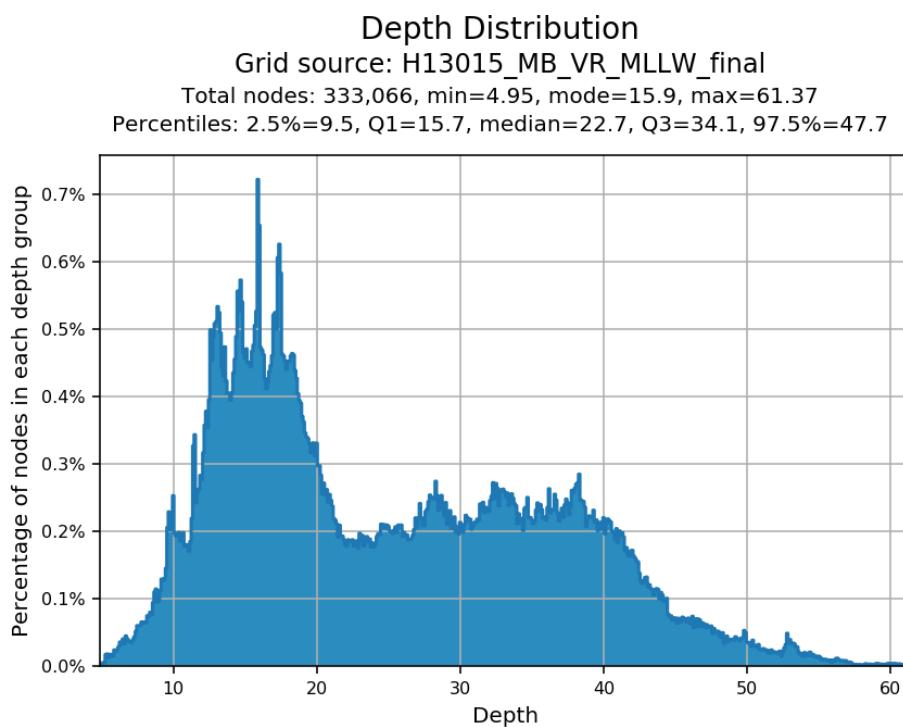

Fig. 2.31: A histogram of the percentage of total nodes at each depth represented in the surface.
- Depth Distribution (Fig. 2.31).